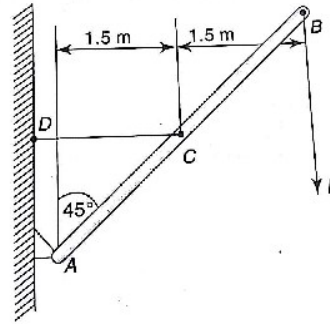

Figure 2.12
13. A weightless bar AB is supported in a vertical plane by a hinge at A and a tie bar DC, as shown in Figure 2.12. Determine the axial force S induced in the tie bar by the action of a vertical load P applied at B.